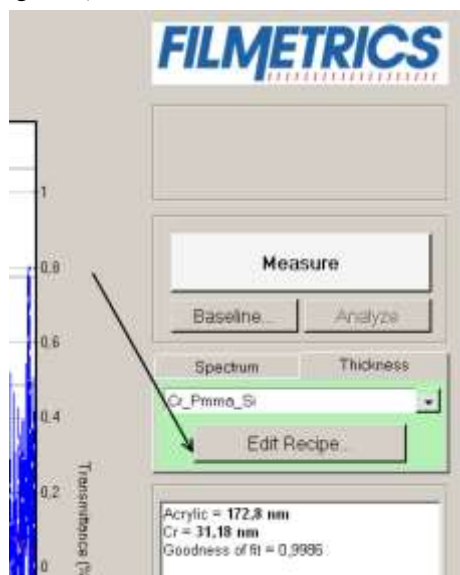

Figure 4: Edit recipe button
7. Choose the “recipe” for the material you are measuring. If the layers of material you are using are not listed you need to create a new layer composition. Creating a new recipe is done by pressing edit recipe (see Figure 4).
9. Place your sample back over the hole. Press the Measure button (see Figure 4).